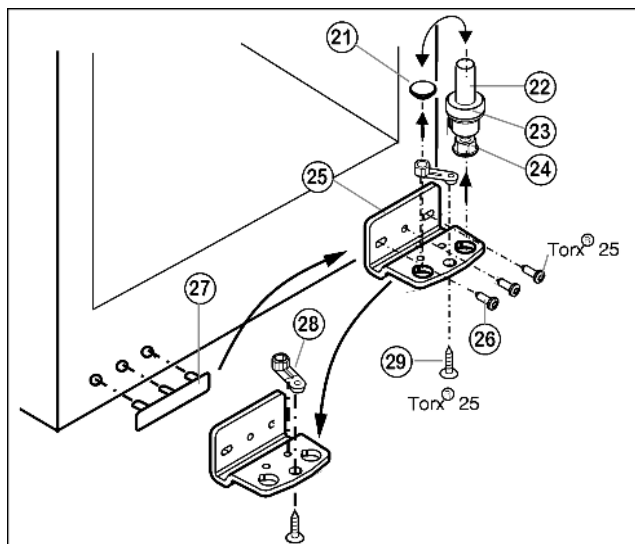

Fig. 6
- ▶ Lift out the bearing pin Fig. 6 (22) together with washer Fig. 6 (23) and adjustable-height foot Fig. 6 (24).
- ▶ Lift off the stopper Fig. 6 (21).
- ▶ Unscrew Fig. 6 (26) the turn hinge Fig. 6 (25).
- ▶ Unscrew Fig. 6 (29) the bearing element Fig. 6 (28), transfer it to the opposite location hole of the turn hinge and screw it firmly into place.
- ▶ Carefully lift off the cover on the handle side Fig. 6 (27) and transfer it to the opposite side.
- ▶ Screw the turn hinge Fig. 6 (25) firmly into place on the new hinge side, possibly using a cordless screwdriver (with 4 Nm).
- ▶ Re-insert the stopper Fig. 6 (21) into the other hole.
- ▶ Re-insert the bearing pin Fig. 6 (22) together with the washer and adjustable-height foot. In so doing, pay attention that the locating lug points backwards
- ▶ Place the door from above onto the lower bearing pin Fig. 6 (22).
- ▶ Insert the upper turn hinge (12) in the door on the new hinge side.
- ▶ Screw the upper turn hinge (12) firmly into place (with 4 Nm)(2x Torx® 25) (13). Possibly make preliminary holes with a bradawl or use a cordless screwdriver.
- ▶ Snap the cover (10) and cover (11) into place at the opposite side.
- ▶ Align the door to the appliance housing by way of the two oblong holes in the bottom turn hinge Fig. 6 (25). To do so, unscrew the middle screw.